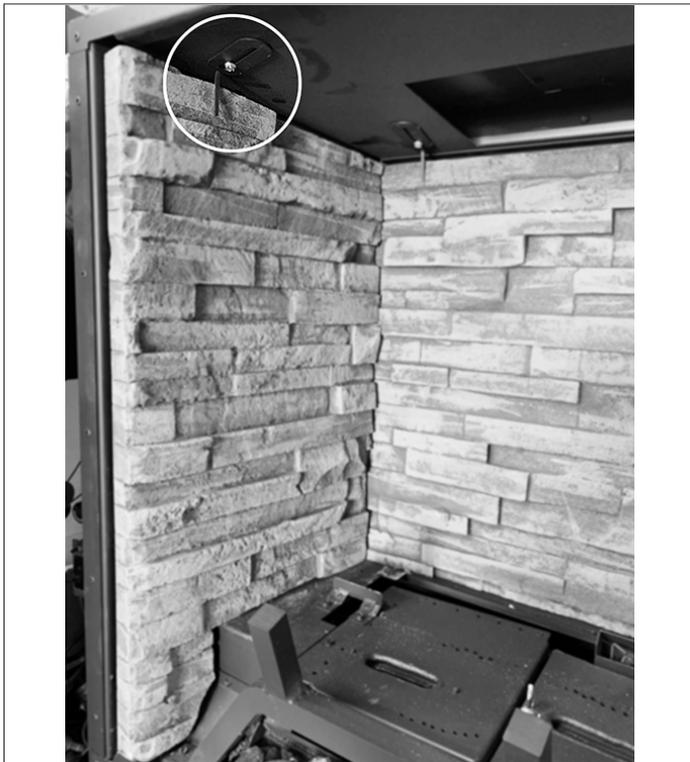

Figure 8.4, Side Refractory Panel Installed
2. Install side refractory panels. Tilt the back of the panel in first then pivot up. Secure with (2) panel clips for each side with provided screws. See Figure 8.4.